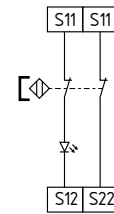

Fig. 10
**Dual-channel control of magnetic safety sensors to IEC 60947-5-3 (see Fig. 10)**